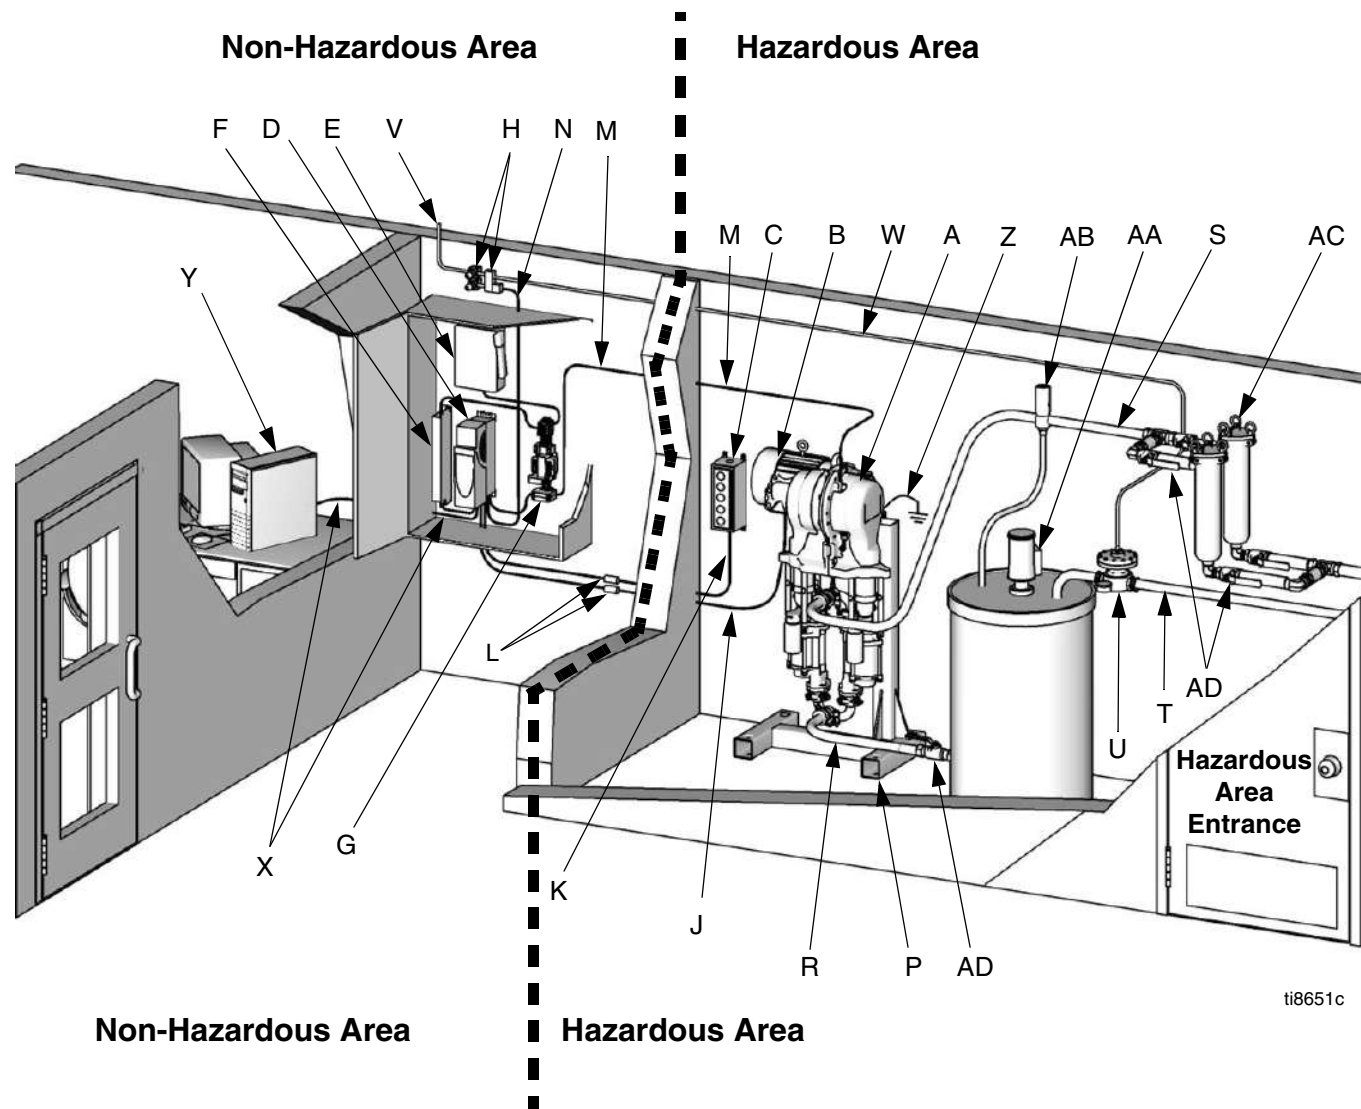

FIG. 1: Typical Installation
FIG. 1 illustrates a typical North American system installation, showing the major system components. Also see the wiring schematic in FIG. 2 and FIG. 3.
See FIG. 1. The following system components are approved for use in a hazardous area:
NOTE: All other components shown in FIG. 1 **must** be installed in a **non-hazardous area**.
See FIG. 1. Install the following components in a non-hazardous area:
See FIG. 1 on page 9. Install a power disconnect switch (E) in the non-hazardous area. This switch must shut off and lock-out all electric power to the system.
See FIG. 1 on page 9. Install the power module (G) in the non-hazardous area.